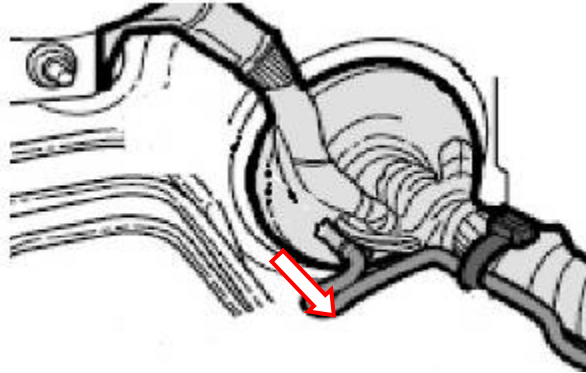

Figure 2-10
f) Confirm the power wire route consider a U-Shape loop (Figure 2-10) right before the grommet to prevent water intrusion to vehicle interior.